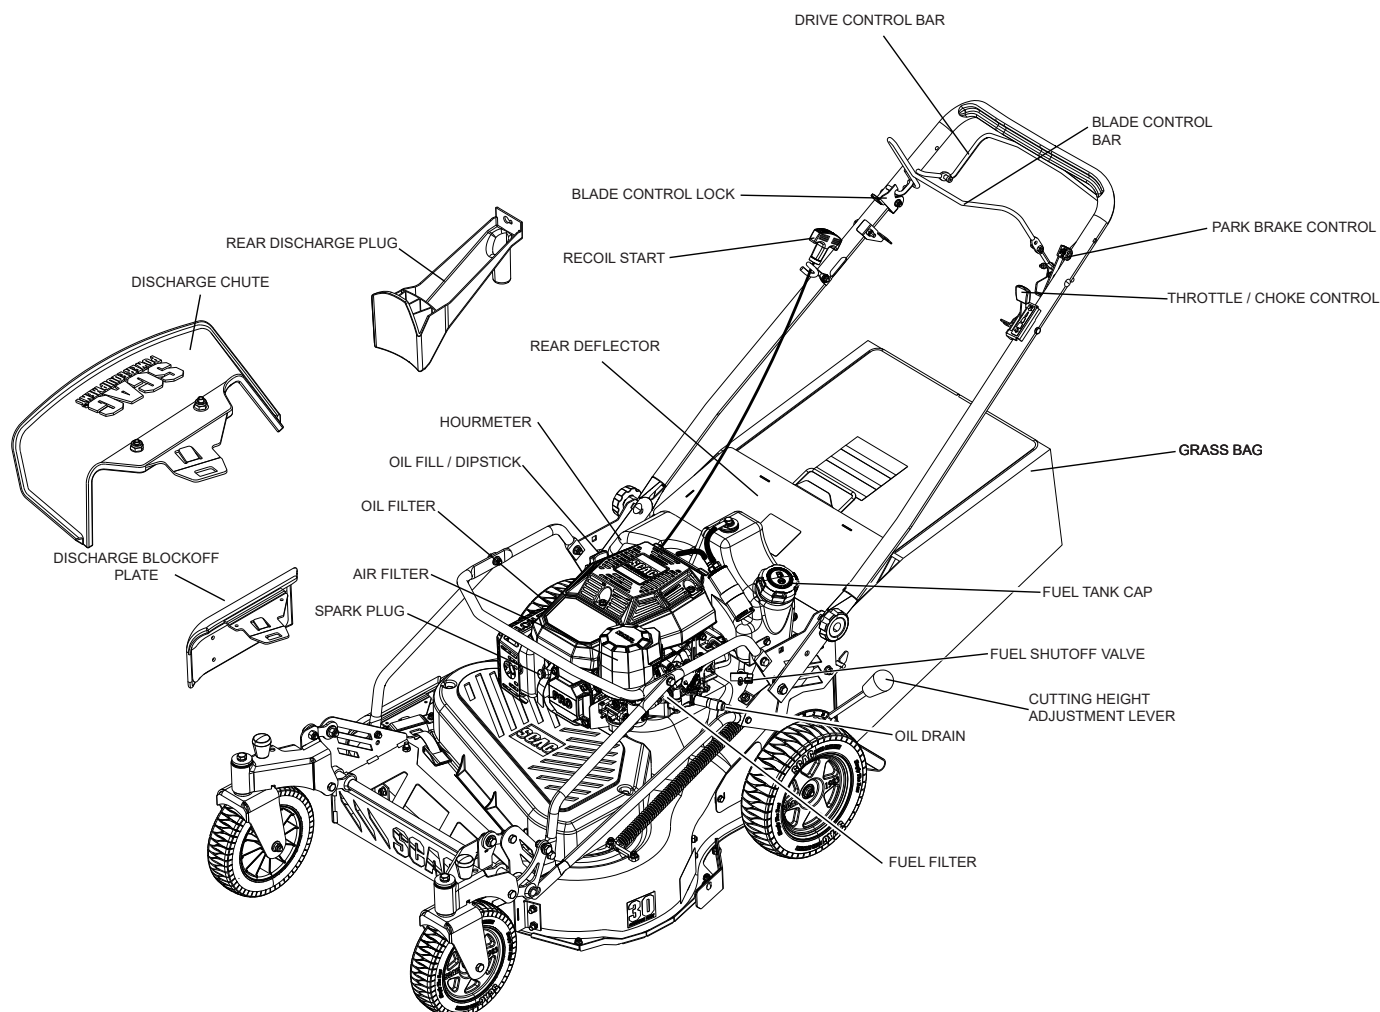

Figure 4-1. Controls and Instruments
1. **Recoil Start (Figure 4-1).** The recoil start is used to start the engine.
2. **Blade Control Bar (Figure 4-1).** Used to engage and disengage the cutter blade drive system. Pulling the control bar will engage the cutter blades. Releasing the control bar will disengage the cutter blades.
3. **Engine Throttle / Choke Control (Figure 4-1).** Used to control the engine speed and choke control. Pushing the lever forward increases engine speed. Pulling the lever back decreases engine speed. Push the lever all the way forward past the detent to engage the choke when starting a cold engine. Full back position is the STOP position. Full forward to detent is the cutting position.
4. **Hourmeter (Figure 4-1).** Indicates the number of hours the engine has been operated. It operates whenever the engine is running.
5. **Drive Control Bar (Figure 4-1).** Used to engage and disengage the mower forward drive system.
6. **Parking Brake Control (Figure 4-1).** Used to engage and disengage the parking brakes. Push the lever forward to engage the parking brake. Pull the lever back to disengage the parking brakes.
7. **Blade Control Lock (Figure 4-1).** Use to lock the blade control bar in the neutral position.
8. **Grass Bag (Figure 4-1).** Use to bag and collect grass clippings while mowing.
9. **Fuel Tank Cap (Figure 4-1).** Use to fill the fuel tank with fuel.
10. **Fuel Shutoff Valve (Figure 4-1).** Used to shut off fuel supply to the engine.
11. **Oil Drain Valve (Figure 4-1).** Used to drain the oil from the engine.
12. **Cutting Height Adjustment Lever (Figure 4-1).** Used to set the cutter deck at the desired cutting height.
13. **Fuel Filter (Figure 4-1).** Used to filter the fuel supply to the engine. Refer to engine owner's manual supplied with this unit when servicing.
14. **Discharge Blockoff Plate (Figure 4-1).** Used to shut off the discharge of grass clippings out of the side discharge opening. Install when mulching or using the grass bag.
15. **Discharge Chute (Figure 4-1).** Used to allow the discharge of grass clippings out of the side discharge opening. Install when side discharging.
16. **Spark Plug (Figure 4-1).** Used to supply spark to the engine. Refer to engine owner's manual supplied with this unit when servicing.
17. **Air Filter (Figure 4-1).** Used to filter the air supply to the engine. Refer to engine owner's manual supplied with this unit when servicing.
18. **Oil Filter (Figure 4-1).** Used to filter the oil supply in the engine. Refer to engine owner's manual supplied with this unit when servicing.
19. **Oil Fill / Dipstick (Figure 4-1).** Used to add and check the level of oil in the engine. Refer to engine owner's manual supplied with this unit when servicing.
20. **Rear Discharge Plug (Figure 4-1).** Used to shut off the discharge of grass clippings out of the rear discharge opening. Install when mulching or side discharging.
21. **Rear Deflector (Figure 4-1).** Used to hold the grass bag and rear discharge plug in place during operation.